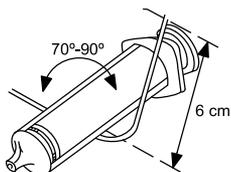

Figure 5. Curve the stylet
2. Select a stylet according to the function and to the preferred firmness. If desired, gently curve the stylet with any sterile, smooth-surfaced instrument (e.g., 10-cc or 12-cc syringe barrel) (Figure 5 Curve the stylet on page 22). A gentle curve is less likely to straighten than a sharp bend as the stylet is used.